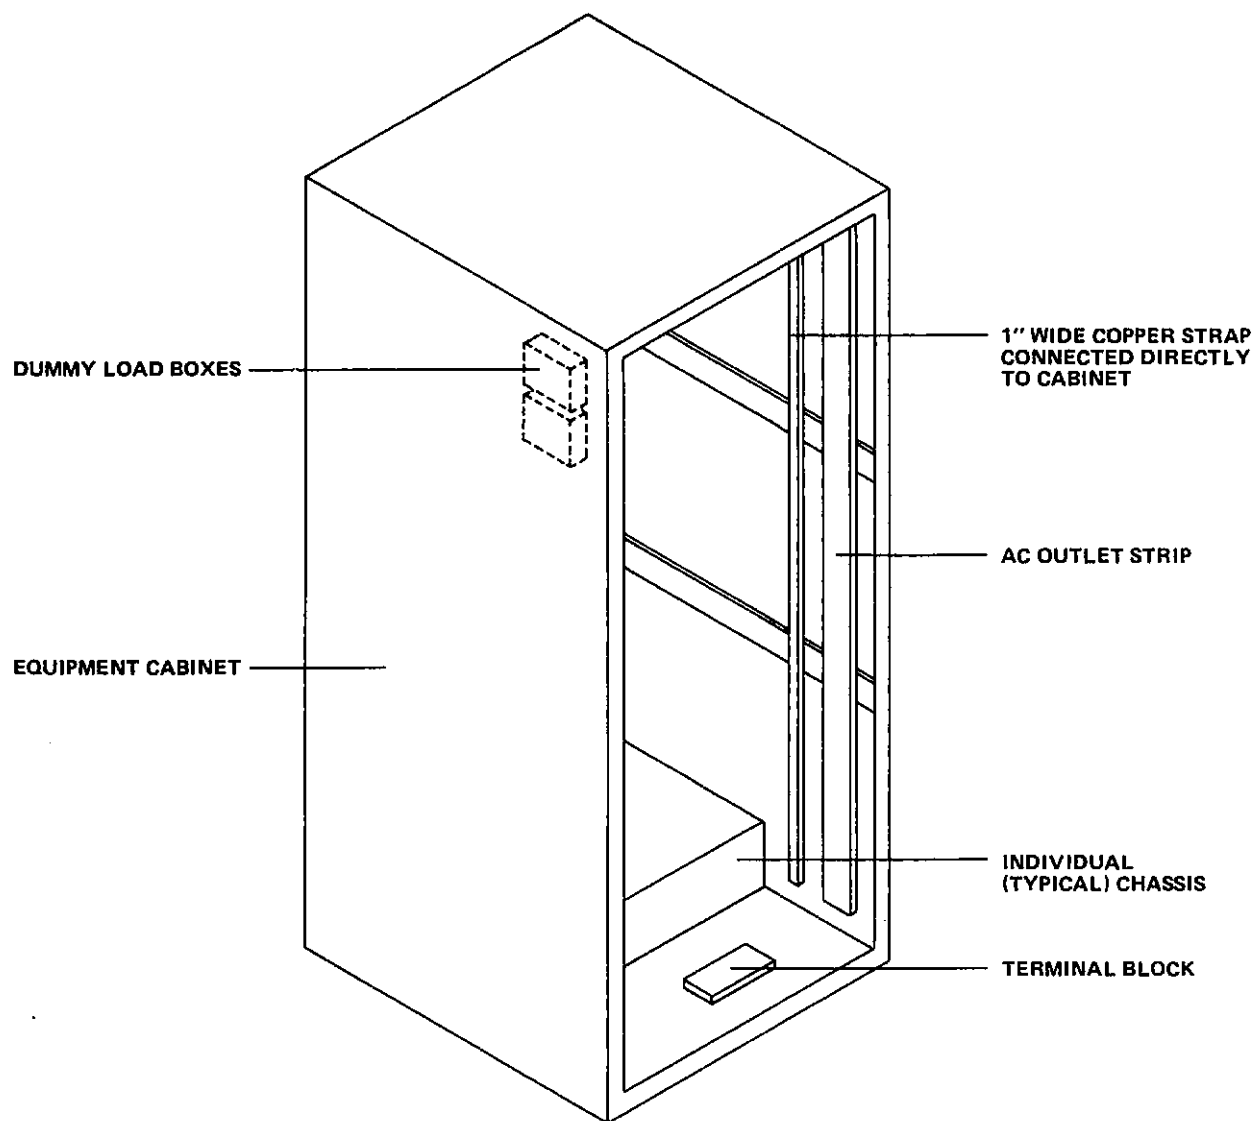

Figure 2.2. Electrical Equipment Cabinet (Rear View)
2.3.2.4 Figure 2.2 is an illustration of the Electrical Equipment Cabinet. The Electrical Equipment Cabinet is a standard item that has been modified for Coast Guard use.